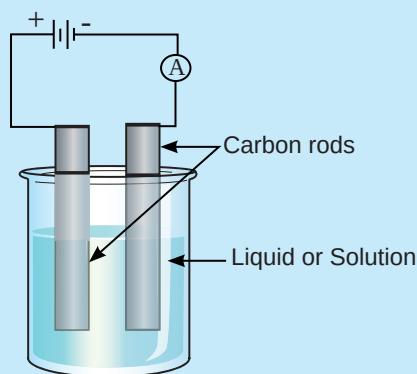

Figure 10.1
- Connect the ammeter and the two dry cells to the two carbon rods as shown in the figure. 10.1. Dip the two carbon rods partially in the liquid/solution.